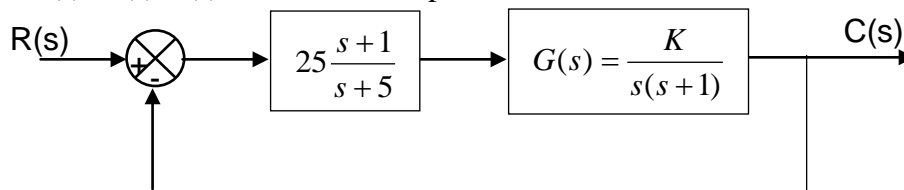

Fig. 4. Feedback control system
- Q.4 a. Consider the feedback control system shown in Fig 4. The normal value of the process parameter K is 1. Determine the sensitivity of transfer function  $T(s)=C(s)/R(s)$  to variations in parameter K. (8)